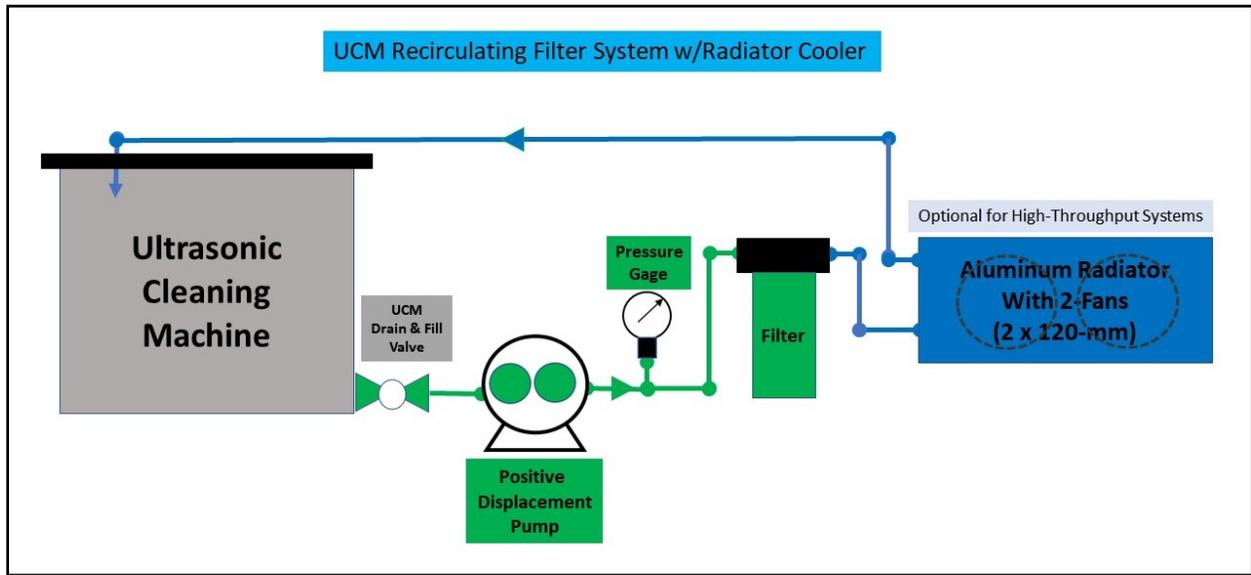
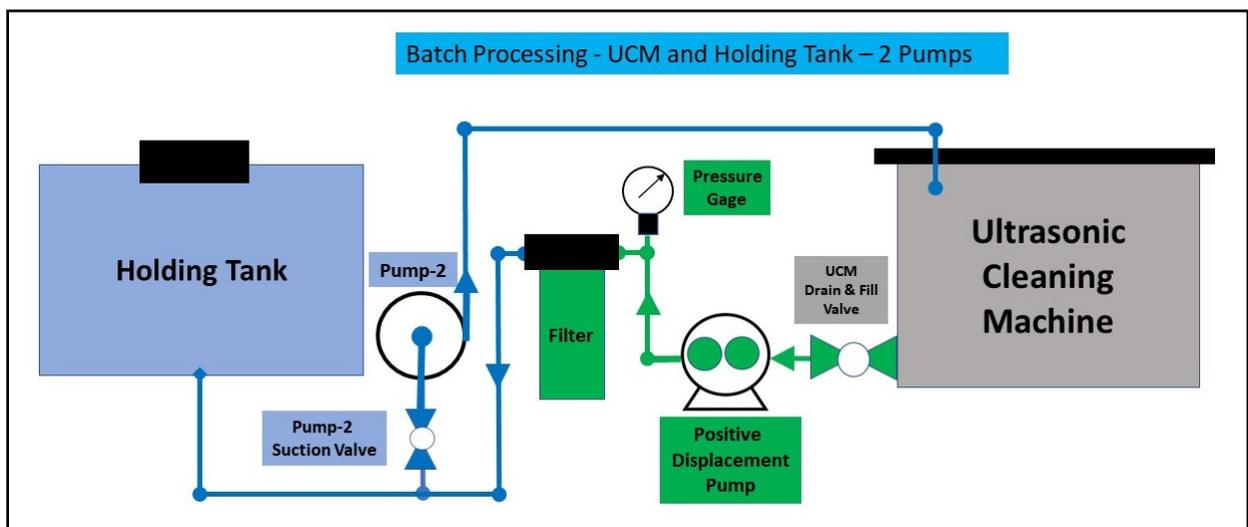
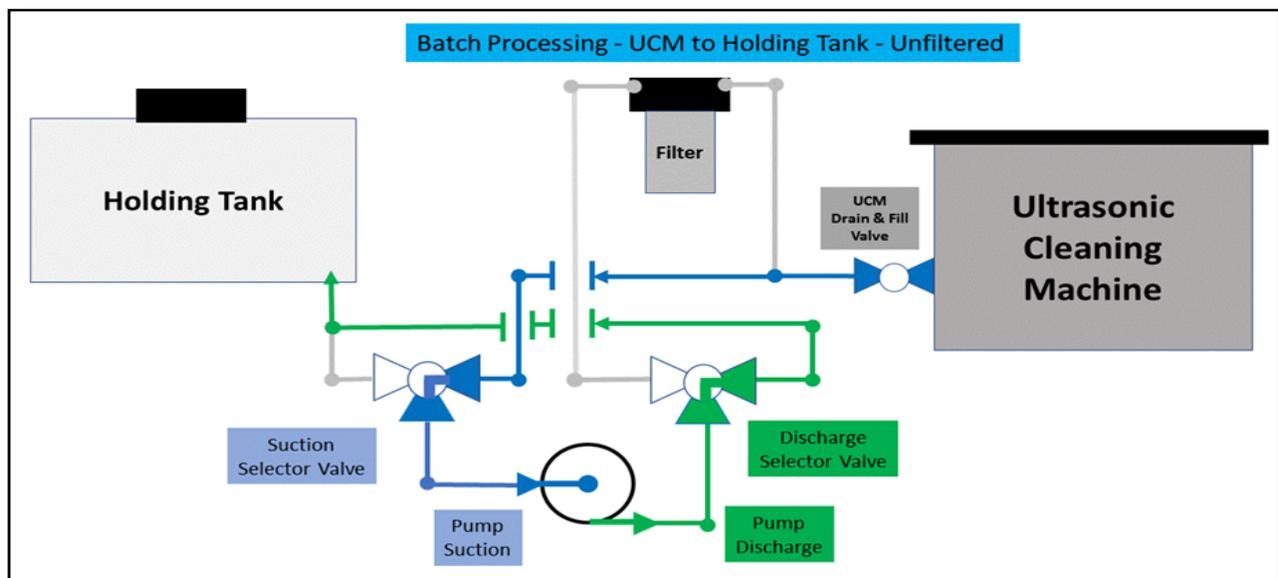
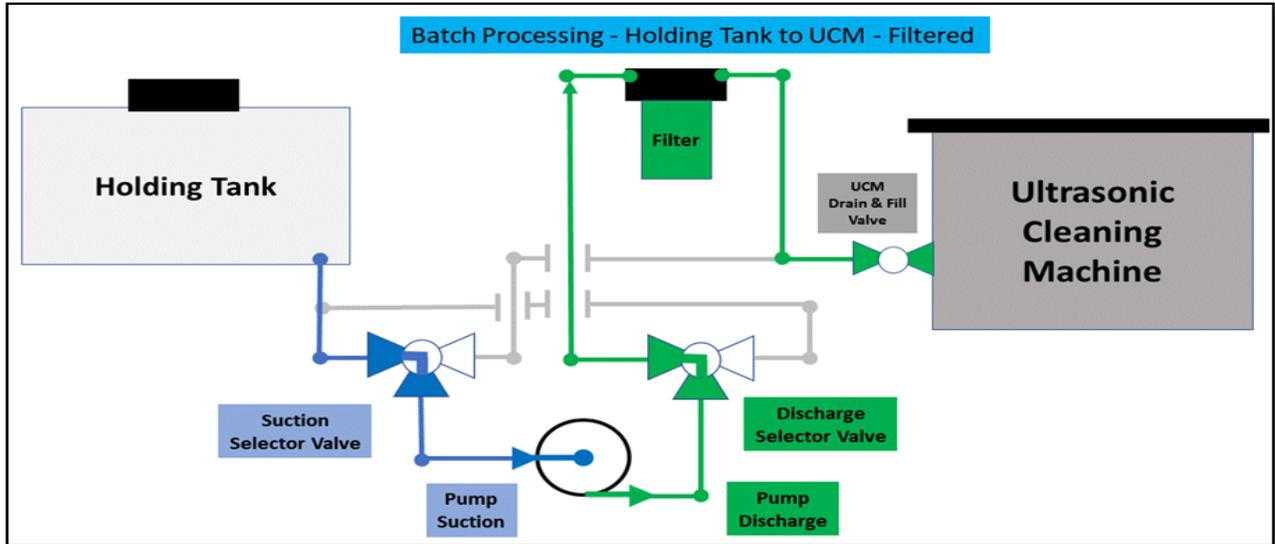

Figure 58 – UCM Recirculating Filter System w/Radiator Cooler
Figure 59 – Batch Processing UCM and Holding Tank – 2 Pumps
Figure 60 - Batch Processing - UCM to Holding Tank - Unfiltered
Figure 61 - Batch Processing - Holding Tank to UCM - Filtered
- XIV.16 **Pumped Filtration:** Pumped filtration is performed either by single tank recirculation as illustrated **Figure 57** and **Figure 58** which is the most common method, or tank-to-tank batch processing illustrated **Figure 59**, **Figure 60**, and **Figure 61**. There are advantages and disadvantages to each. **Table XXVI** shows a comparison between the two-types of filtration systems assuming a UCM of 2-gallons capacity. Generally, recirculation is simpler and cheaper; while batch is faster, more efficient, but more complicated and expensive.
- XIV.16.1 **Figure 58** illustrates a recirculating filter system. The optional aluminum radiator is used for applications that have a high throughput. The radiator removes the heat generated by the ultrasonics.
XIV.16.5 Batch filtration is 100% efficient but requires a second tank. Batch filtration can use any size pump. However, pump selection can affect risk of foaming. During pump-down from the ultrasonic tank to the holding tank, or during pump-down of the holding tank to the ultrasonic tank, at the end of the evolution the pump suction will be very low causing centrifugal pumps to cavitate possibly foam. On start-up as the centrifugal pump primes again cavitation and foam may develop. Positive displacement pumps are generally more forgiving and some can run dry without damage and self-prime. **Figure 59** illustrates the easiest way to implement a batch filtration process using two (2) pumps.
XIV.16.5.b Batch filtration with two 3-way valves and one pump as illustrated in **Figure 60** and **Figure 61** can transfer water from the UCM to the batch tank and then transfer water from the batch tank back to the UCM. The plumbing and valve sourcing can get complicated and there is little cost saving from using a two-pump arrangement. The water can be filtered to or from the batch tank depending on how it is plumbed - **Figure 61** shows the arrangement for filtering from the holding tank.
- XIV.23.2 Alternately, since the outlet pressure is the UCM tank that is essentially at 0 psig (or slightly higher if a radiator is installed), a filter inlet pressure gauge (as indicated **Figure 58**) is a reasonable indication of filter differential pressure. In this case, a standard 0-60 psig, Stainless Steel 1/8" NPT 1.5" face dial, glycerin filled pressure gauge with 1/8" to 3/8" NPT adapter is recommended. A stainless-steel tee pipe fitting, 3/8" x 3/8" x 3/8" NPT female pipe fitting can then be used (with 3/8" NPT plastic hose bards) to install in the tubing. A glycerin filled pressure gauge is recommended to damp the pulsations normal with positive displacement pumps.
XIV.25 **UCM Pump-Filter Parts List:** Table XXVII provides three cost-options for installing a DIY recirculating UCM pump-filter system (see **Figure 58**) w/o the radiator (see **paragraph XIV.16.2**) or inlet pump strainer (see **paragraph XIV.17**). Prices are estimates at the date of the last edition of this book. Specific items can be located by copying the part description and searching the internet. Many of the small parts are available from Amazon™. The pumps and filter elements are generally available elsewhere.